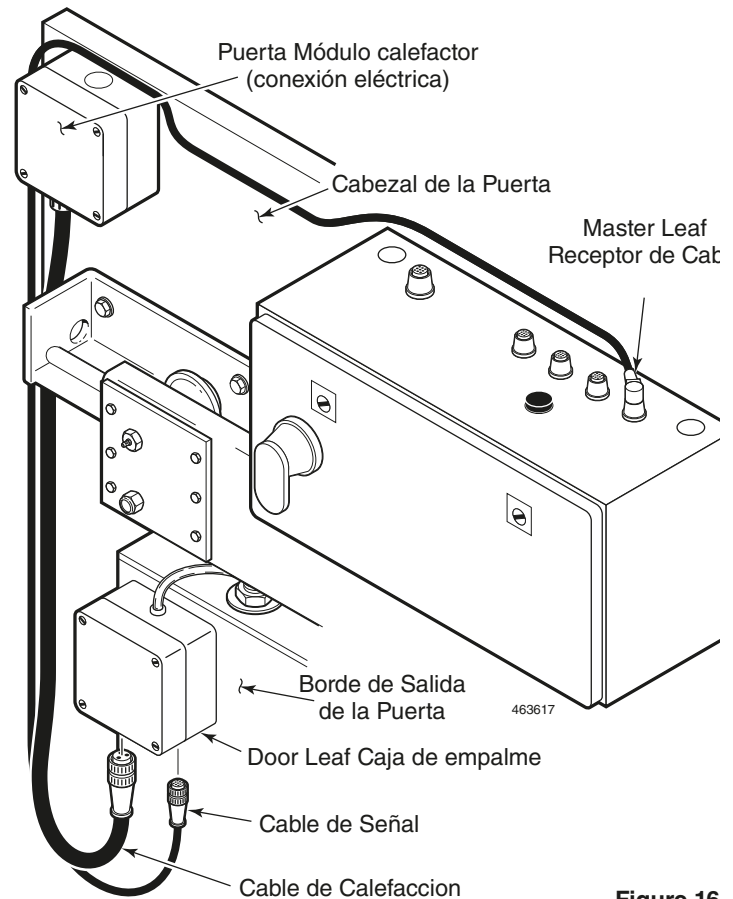

Figure 16
**Single Sliding Doors only.** Connect the 8-pin Signal Cable (thin cable) to the corresponding receptacle on the Door Leaf Junction Box. See Figure 16.
**Bi-Parting Doors only.** Connect the 8-pin Signal Cable (thin cable) twist plug to the corresponding receptacle on the Door Master Leaf Junction Box. In a similar fashion as above, connect the 4-pin Signal Cable (thin cable) to the Junction Box on the Door Slave Leaf. See Figure 16.
Freezer doors are equipped with a Door Heater Module mounted on the Door Header. Bi-Parting doors have a Door Heater Module mounted on each end of the Door Header. See Figure 16.
1. Switch off the power to the Door Heater Module(s). Connect the 3-pin Door Heater Cable(s) (thick cable already connected to the Door Heater Module), to the corresponding receptacle(s) on the Door Leaf Junction Box(es). See Figure 16.